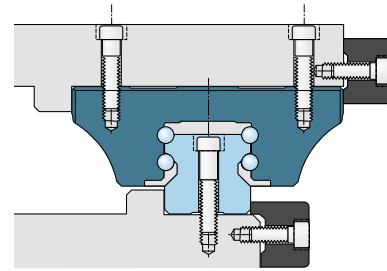

Fig. 20
1. Tighten the retaining strip screws (→ **fig. 20**) with a torque wrench.